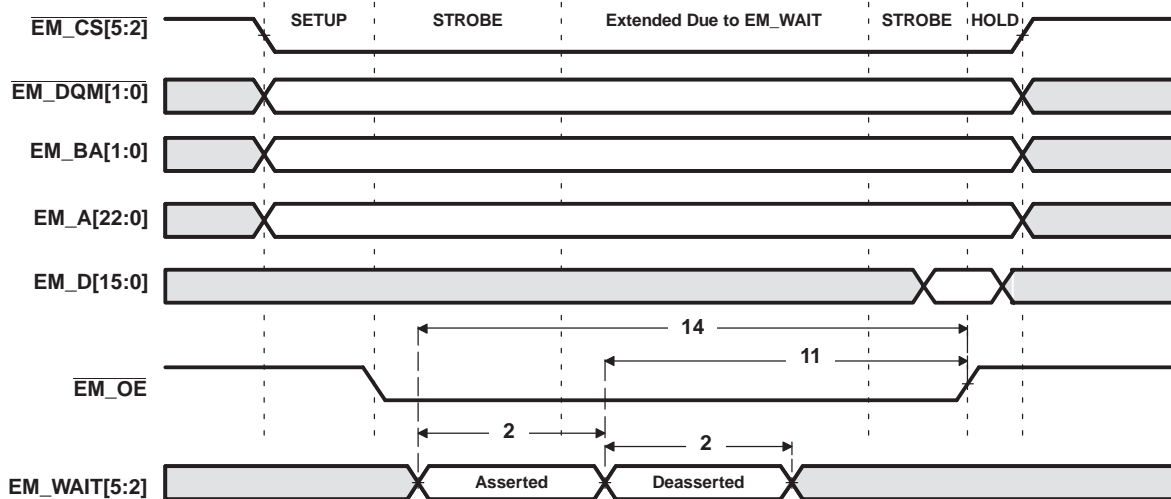
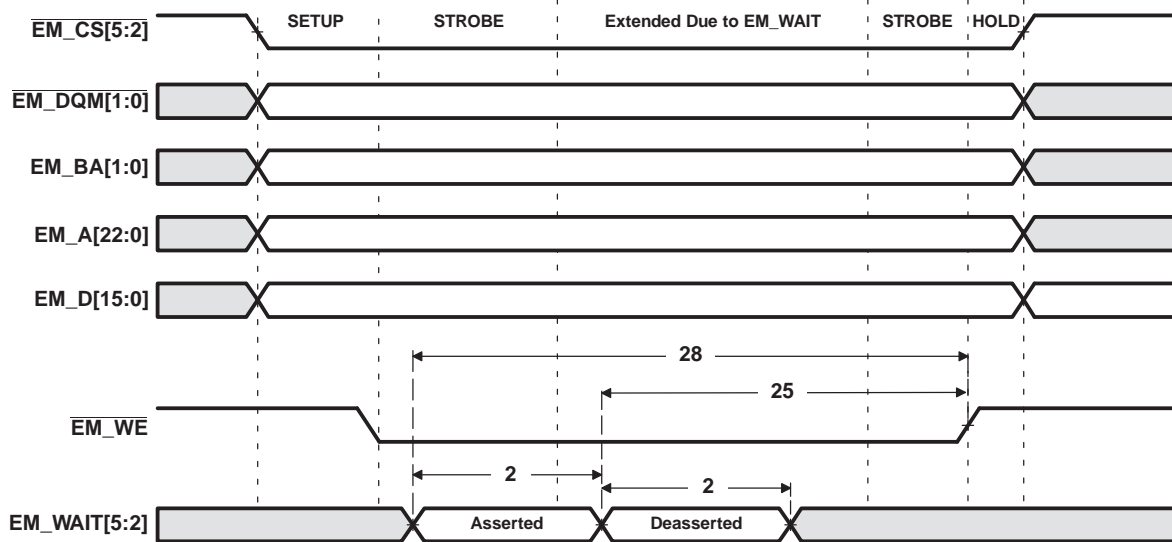

Figure 7-24. EM_WAITx Read Timing Requirements
Figure 7-25. EM_WAITx Write Timing Requirements
- (1) E = SYSCLK3 period in ns for EMIFA. For example, when running the DSP CPU at 594 MHz, use E = 6.734 ns.
- (2) Setup before end of STROBE phase (if no extended wait states are inserted) by which EM_WAITx must be asserted to add extended wait states. Figure 7-24 and Figure 7-25 describe EMIF transactions that include extended wait states inserted during the STROBE phase. However, cycles inserted as part of this extended wait period should not be counted; the 4E requirement is to the start of where the HOLD phase would begin if there were no extended wait cycles.